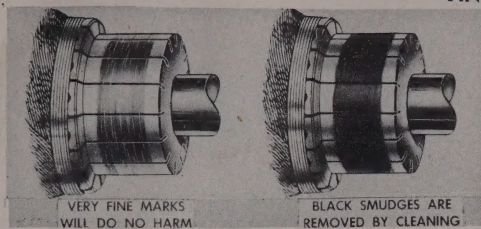
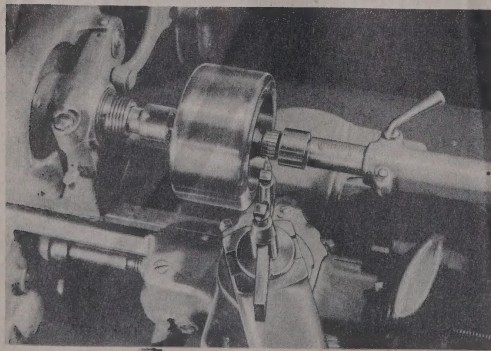
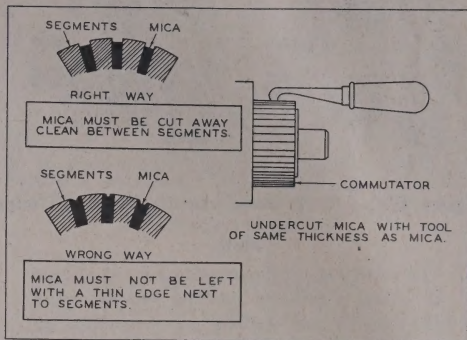

Figure 192 — Dirty Commutator, Easily Cleaned
Figure 194—Turning Down Commutator in Lathe
Figure 195—Undercutting Mica on Commutator
b. If the commutator is blackened or smudged with oil or carbon, it should be cleaned. (See figures 192 and 193.) A good test is to rub the commutator with your finger. If you are able to rub off any carbon or stain, the commutator needs cleaning. To clean the commutator, wipe with a clean cloth moistened only slightly with carbon tetrachloride (U. S. Army Specification No. 4-503-110B). If this does not remove the discoloration, place the commutator in a lathe, and, using a fine sandpaper or polishing cloth, polish off the commutator bars to remove the discoloration. If bearings have not been removed, they must be wrapped and taped carefully to prevent abrasives from falling into the bearings. If the slots between the commutator bars have become filled up with dirt or carbon particles, they should be cleaned out with an orange stick, or similar sharp piece of wood. *Do not use any metal for this purpose.* If the dirt and carbon cannot be removed with this method, mica should be undercut, as shown in figure 195.
c. If the commutator is badly scored or pitted, or if the brushes have worn a groove in the surface of the commutator, the commutator must be turned down in a lathe, as shown in figure 194. In turning down the commutator, make no cut that is deeper than necessary. After turning down the commutator, the mica between the commutator bars must be undercut, as shown in figure 195. Undercut mica only about 1/64 of an inch.